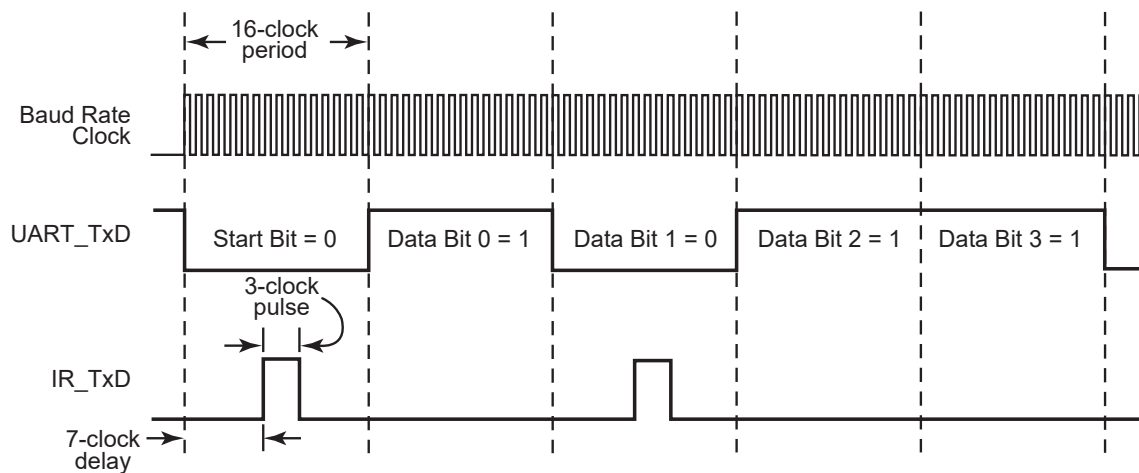

Figure 38. Infrared Data Transmission
The data to be transmitted via the IR transceiver is the data sent to UART0. The UART transmit signal, TxD, and Baud Rate Clock are used by the endec to generate the modulation signal, IR_TxD, that drives the infrared transceiver. Each UART bit is 16 clocks wide. If the data to be transmitted is a logical 1 (High), the IR_TxD signal remains Low (0) for the full 16-clock period. If the data to be transmitted is a logical 0, a 3-clock High (1) pulse is output following a 7-clock Low (0) period. Following the 3-clock High pulse, a 6-clock Low pulse completes the full 16-clock data period. Data transmission is displayed in Figure 38. During data transmission, the IR receive function must be disabled by clearing the IR_RxEN bit in the IR_CTL reg to 0 to prevent transmitter-to-receiver crosstalk.